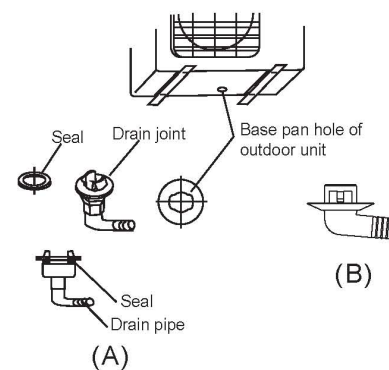

Fig.19
For the drain joint with the seal (Fig.19 (A)), first fit the seal onto the drain joint, then insert the drain joint into the base pan hole of outdoor unit, rotate  $90^\circ$  to securely assemble them. To install drain joint as shown in Fig.19 (B), insert the drain joint into the base pan hole of outdoor unit until it remains fixed with a clicking sound. Connecting the drain joint with an extension drain hose (Locally purchased), in case of the water draining off the outdoor unit during the heating mode.